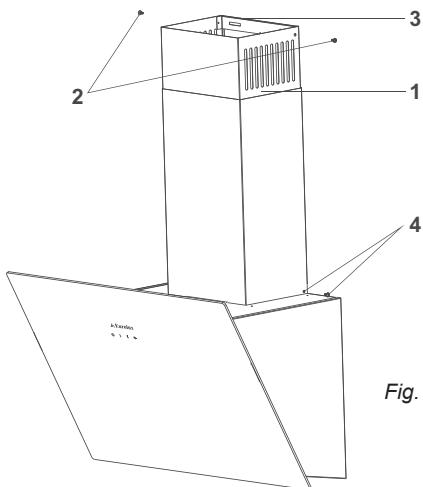

Fig. 14
The outer and inner sheet metal flues are assembled one within the other (Fig. 14).
- Affix the inner flue to the flue connection plate from its left and right sides with two 3.5x9.5 screws, by pulling it upwards. (Fig. 14)
- Affix the outer flue with two 3.5x9.5 screws to the left and right connection plates at the back of the cooker hood's body, from the bottom (Fig. 14).